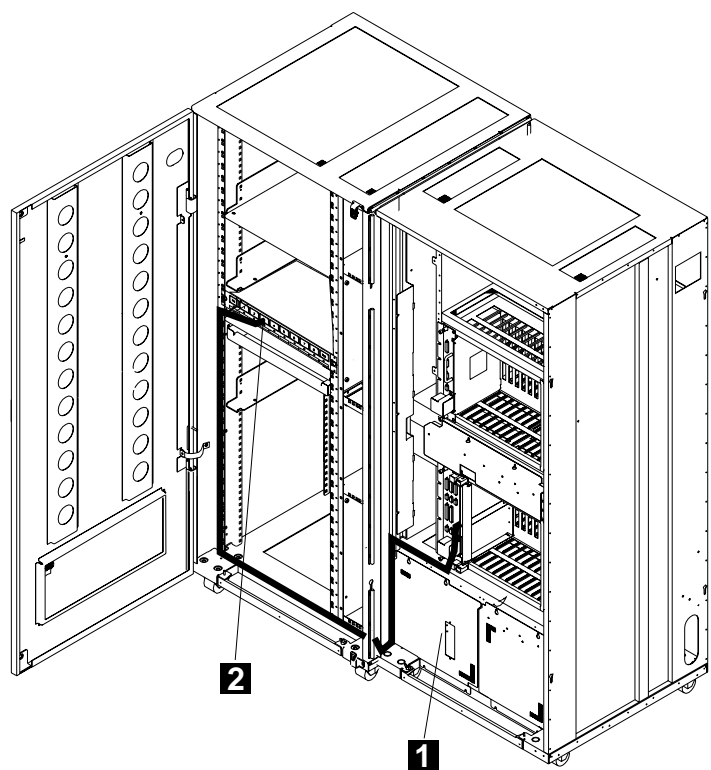

Figure 11. Connection of the 3746-900 to the 8228 (Rack Attached)
- **Attached** refer to Figure 11 on page 16